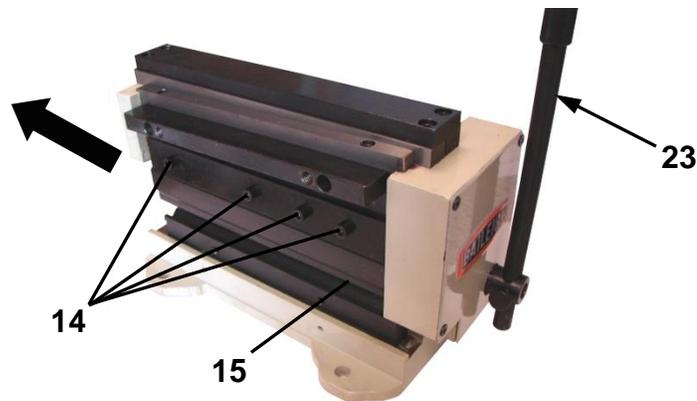

figure 2
2. Remove any unneeded bending tool fingers by sliding them out the left side of the shear as shown in fig. 2.